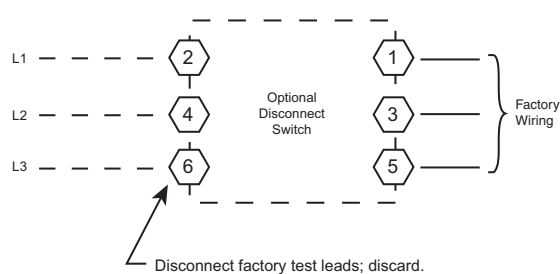

Fig. 18 — Power Wiring Connections
The field power wires are connected to the unit at line-side pressure lugs on compressor contactor C and indoor fan contactor IFC (see wiring diagram label for control box component arrangement) or at factory-installed option non-fused disconnect switch. Maximum wire size is #2ga AWG (copper only). See Fig. 18 and unit label diagram for field power wiring connections.
The factory-installed optional disconnect switch is located in a weatherproof enclosure located under the main control box. The manual switch handle is accessible through an opening in the access panel. Discard the factory test leads (see Fig. 18).
All field wiring must comply with NEC and all local codes. Size wire based on MCA (Minimum Circuit Amps) on the unit informative plate. See Fig. 18 for power wiring connections to the unit power terminal block and equipment ground. Maximum wire size is #4 ga AWG per pole.
2. Install power lines to terminal connections as shown in Fig. 18.